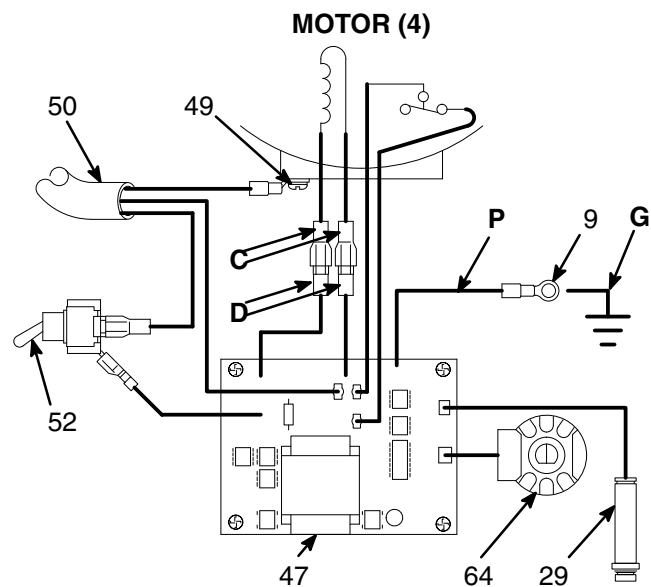

Fig. 13 03000
Remove the screws (56,75). Lower the control board (47). Disconnect the two leads (C) from the motor to the board. See Fig. 13.
Connect the two black motor leads (C) together with a test lead. Turn the motor fan by hand at about two revolutions per second. See Fig. 13.